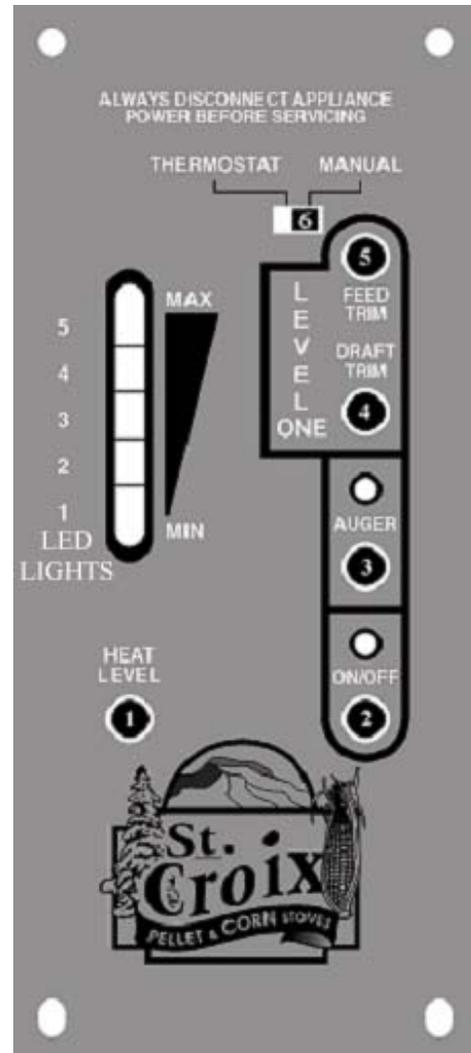

Figure 2
A closer look at the Control Board to the right in figure 2 will explain how the board works. There are five buttons labeled 1 through 5, a slide switch labeled 6 and a LED Light bar with 5 Heat Settings. **The LED Light bar is also used during the Diagnostic process, see page 8 for more details.**
The buttons on the board function as follows: (Refer to Figure 2. The touch pad buttons and Slide Switch are labeled with the white numbers 1 through 6)
4. Close the door and push the On/Off button on the control board. (*Button #2, see figure 2*)
Shutting The Stove Off (Refer to Figure 2)
The #2 LED and the #3 LED lights on the LED Light bar as show in Figure 2 will flash to give a diagnostic code to help in diagnosing problems that may occur.
1. The **Proof of Fire** switch. This switch will sense the temperature of the Exhaust rising during start up. If the Exhaust temperature does not reach 110 degrees F, or if during use the temperature drops below 110 degrees F, the Stove will go into “**Internal Alarm**” and the Auger will quit feeding fuel. Once the stove completes the safety shutdown, the #3 LED will start blinking. (See Figure 2 on Page 6 and point 4 on page 20)
2. The **High Limit** switch. This sensor will sense if the unit reaches temperatures that are too high for normal operation. If this happens the Auger will quit feeding and the #2 and #3 LED lights will flash simultaneously. (See Figure 2 on Page 6 and point 6 on page 21)
3. The **Vacuum** Switch - For the stove to operate, the Firebox needs to be sealed. During the first 30 seconds after the stove has been turned on the Control Board will check if the switch senses negative pressure (Vacuum) in the Firebox of the stove. If there is no negative pressure, the stove will shut down and the #2 LED will start blinking. (See Figure 2 on Page 6 and point 5 on page 21)